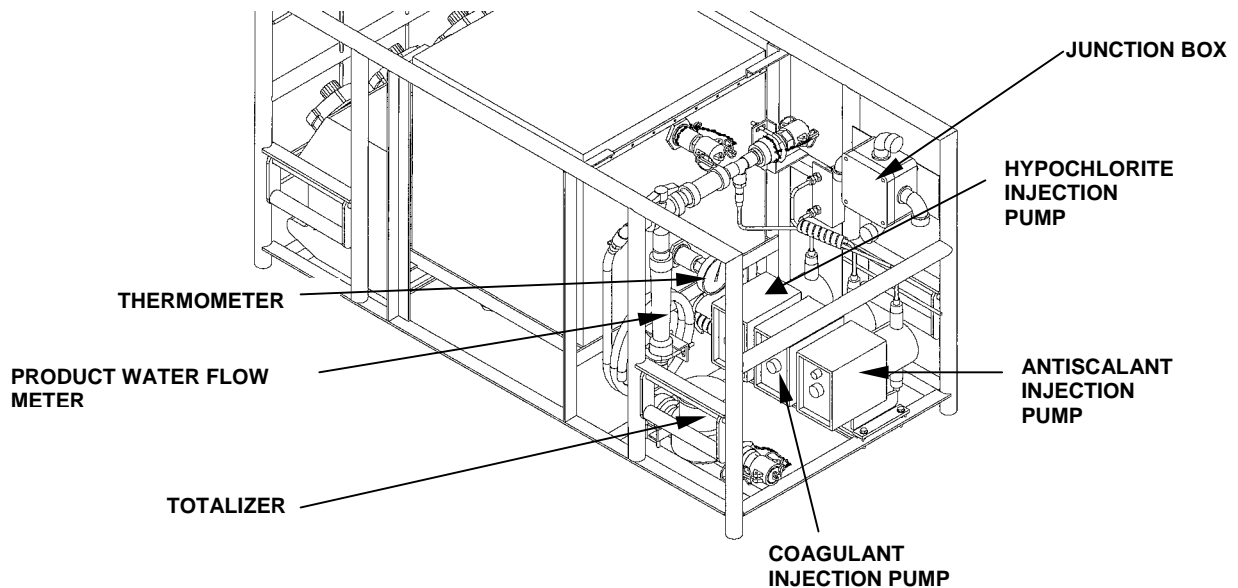

Figure 31. Chemical Injection/Cleaning Module.
14. Open or close the valve V11 slowly until the product water flow meter on the chemical module indicates 2.1 GPM for freshwater (less than 20, 000 ppm source water) or 1.25 GPM for seawater (at or above 20, 000 ppm source water). See Figure 31.